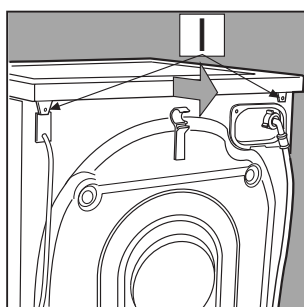

Fig. 3
2. Remove the covering lid by unscrewing the two screws **I**, and then pull it towards you [fig. 3].